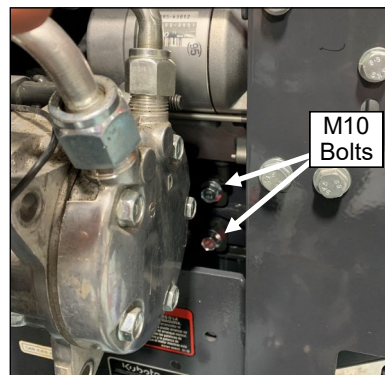

Fig. 6.2a (Secure Compressor with 2 Bolts in Rear)
6.2 Move compressor into location on the left side of the engine and secure the bracket with the hardware listed below as shown in figures 6.2a and b.